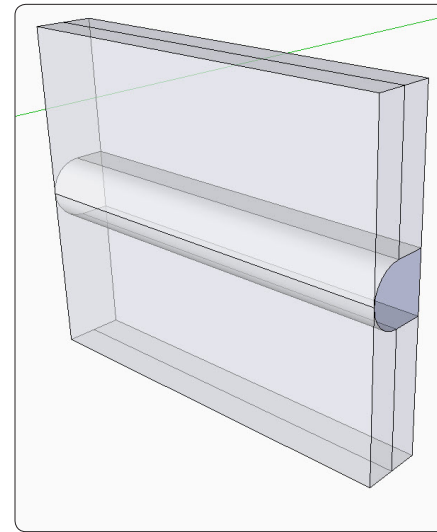

Figure 105. Push the knuckle all the way through the leaf.
Step 3 Select the Push/Pull Tool and tap the Ctrl key (Option on the Mac). Push the knuckle shape all the way through the plate to the other end. Figure 105 is an x-ray view showing the knuckle pushed through.